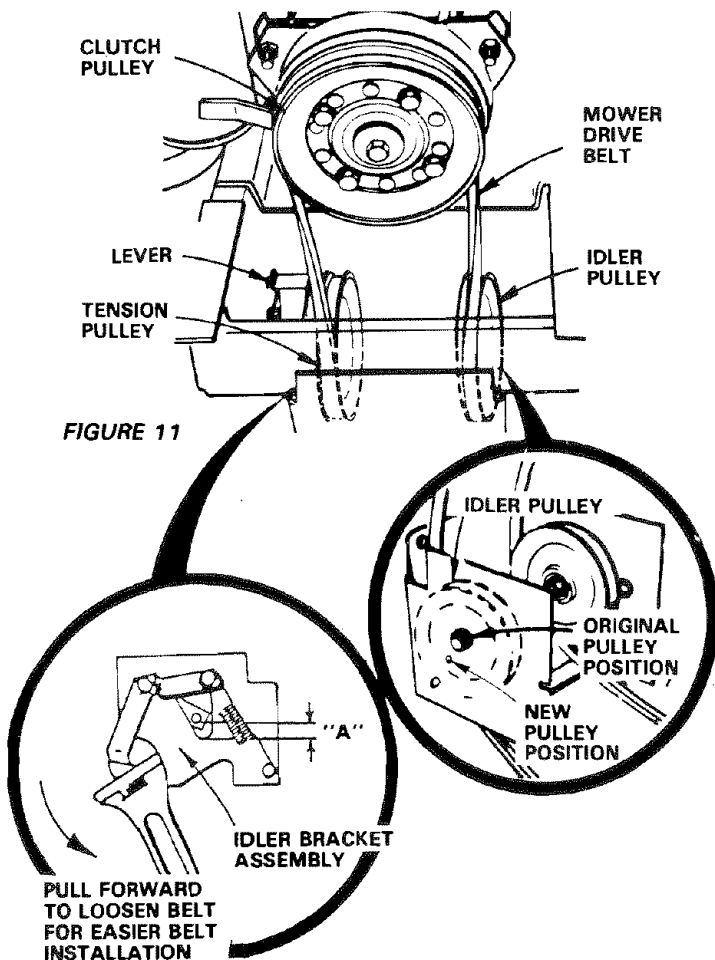

FIGURE 11
- Place mower drive belt over clutch pulley and under idler pulley and tension pulley (Fig. 11). NOTE: PULL LEVER UP TO SWING TENSION PULLEY FOR BELT CLEARANCE. Make sure narrow "V" side of belt is engaged in each pulley.
- If dimension "A" on idler bracket assembly measures 1/4" or less, mower drive belt must be adjusted (Fig. 11-Inset).
- Using two 9/16" wrenches, remove bolt, (2) washers, lockwasher and nut from idler pulley (Fig. 11-Inset) (original position).
- Place v-belt and idler pulley in "NEW" pulley position (Fig. 11-Inset). Replace bolt, (2) washers, lockwasher and nut. Tighten securely.